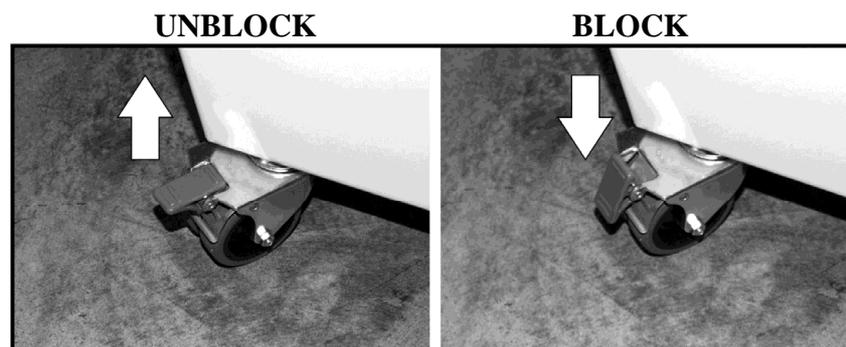

Figure 5
Around the machine, leave sufficient space to allow it to be used comfortably and for carrying out thorough, efficient cleaning operations, regulation and/or maintenance activities. Block the two wheels fitted with brakes by lowering the respective levers (Figure 5).
- Before allowing the machine to be used to slice bread, check that the wheels with brake are locked (see Figure 5).